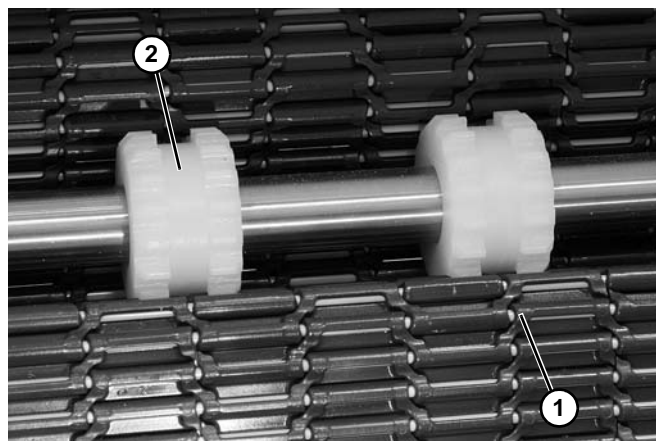

Figure 76
6. Raise belt (**Figure 76, item 1**) into position. Move drive sprockets (**Figure 76, item 2**) so that the teeth line up with the belt, as shown.